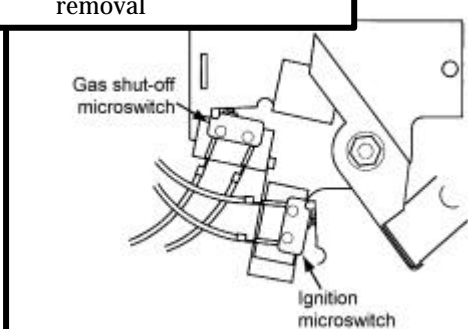

Fig 36 Microswitches
13.1.3 Disconnect the leads from the ignition microswitch (The lower of the two microswitches - See figure 36).
13.2.4 Detach the microswitch assembly by removing two screws (see figure 36).